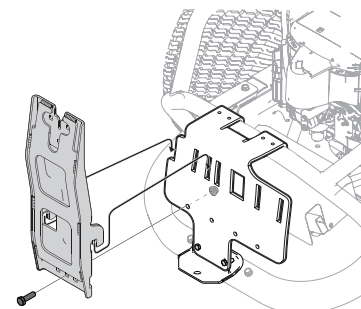

Figure 7
- Install the vertical support bracket onto the mounting assembly on the tractor by hooking it over the mounting assembly as shown in Figure 7.
- Secure the upright support bracket to the mounting assembly using a hex bolt (710-0376) and flange lock nut (712-04063) from hardware pack 689-01419. See Figure 7.